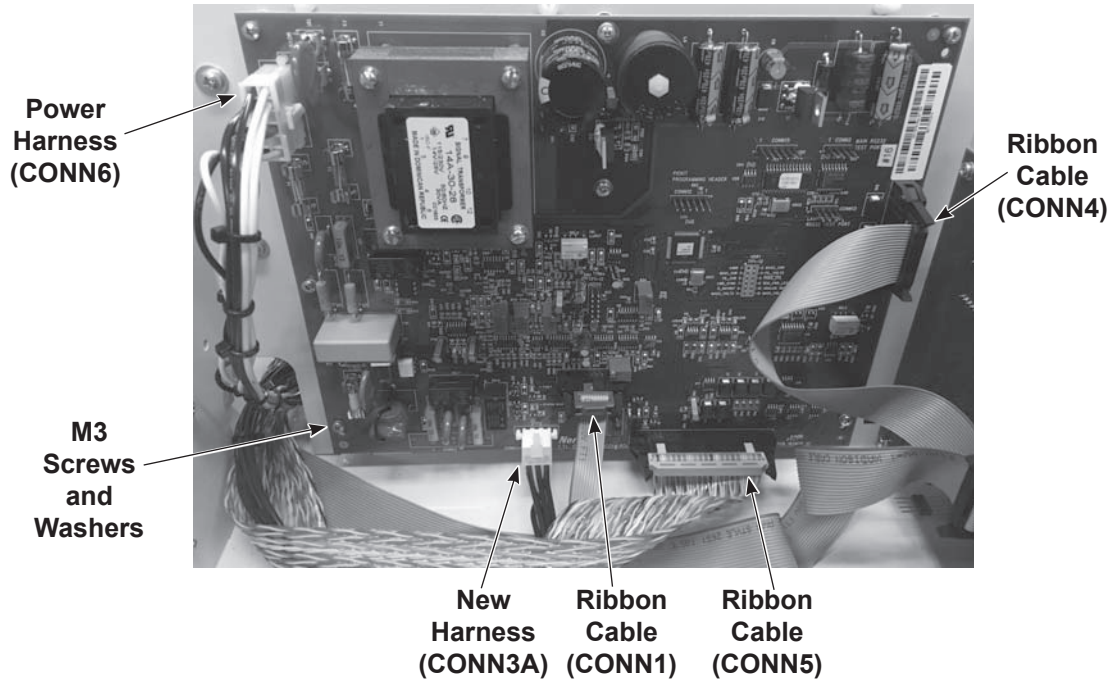

Figure 10 Board Connections and Mounting (shown with newest version of board)
2. See Figure 10. Reinstall main control board using eight screws and washers.